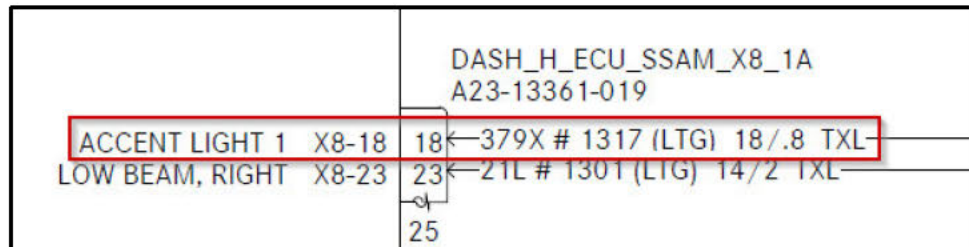

Fig. 3. Removing Circuit 379X
8. Remove circuit 379X from cavity 18 of connector X8. See Fig. 3.